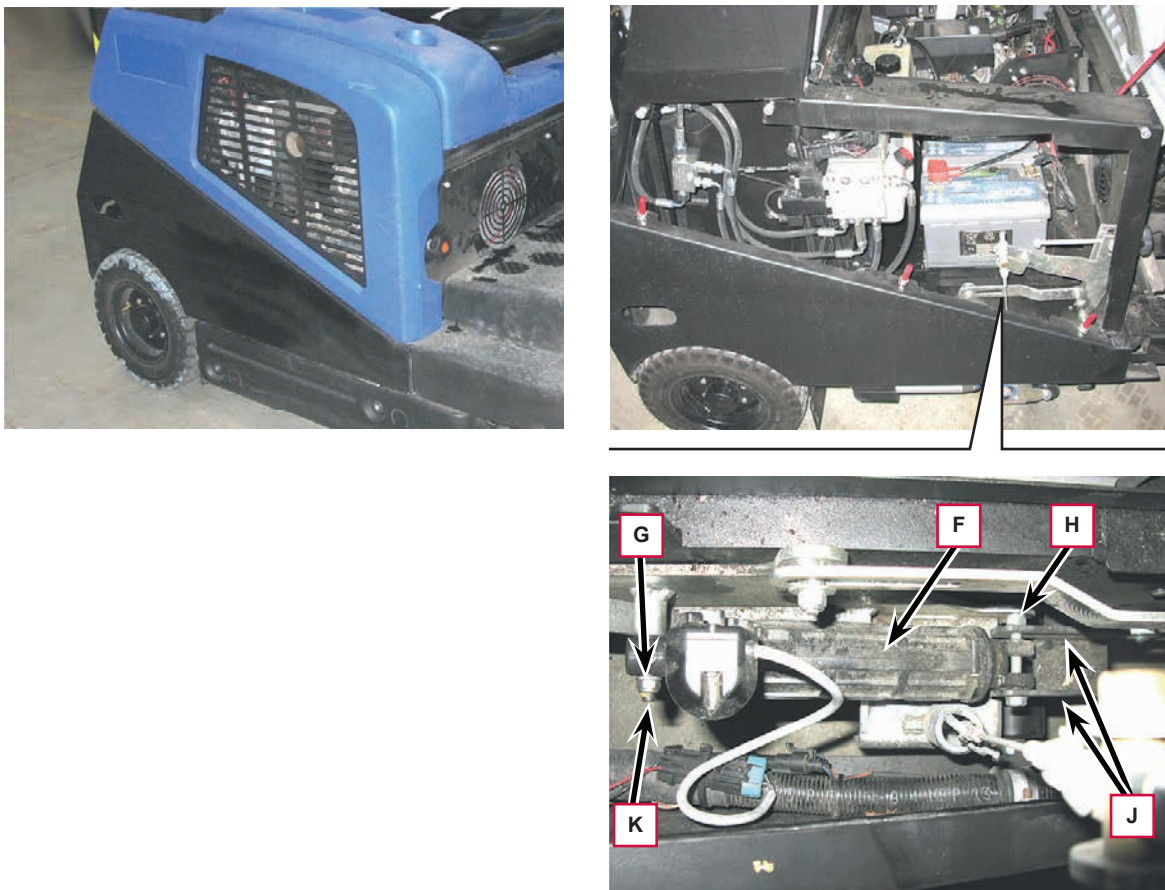

Figure 22
- If necessary, replace the lock nuts (G, Figure 22) and (H) of the screw to ensure correct fastening; also screw them down just enough to bring them together, ensuring free movement of the actuator (F) on the slots (J) and pin (K).